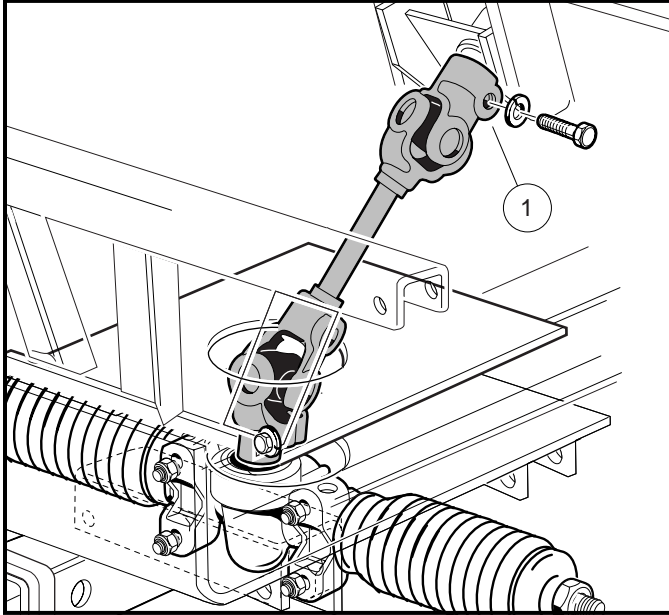

Figure 14-13 Compound Steering Joint
6. Remove the bolt that connects the steering joint (1) to the steering column shaft (**Figure 14-13, Page 14-16**).
- 6.1. Position steering joint assembly (1) on vehicle as shown. Install three lock washers and three bolts and tighten to 15 ft-lb (20.3 N·m) (**Figure 14-13, Page 14-16**). Make sure all of the steering joint bolts are properly tightened to 15 ft-lb (20.3 N·m).